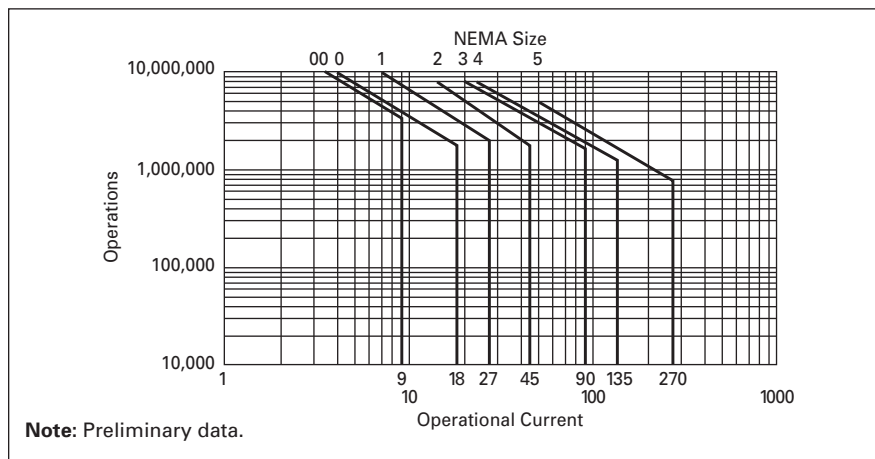
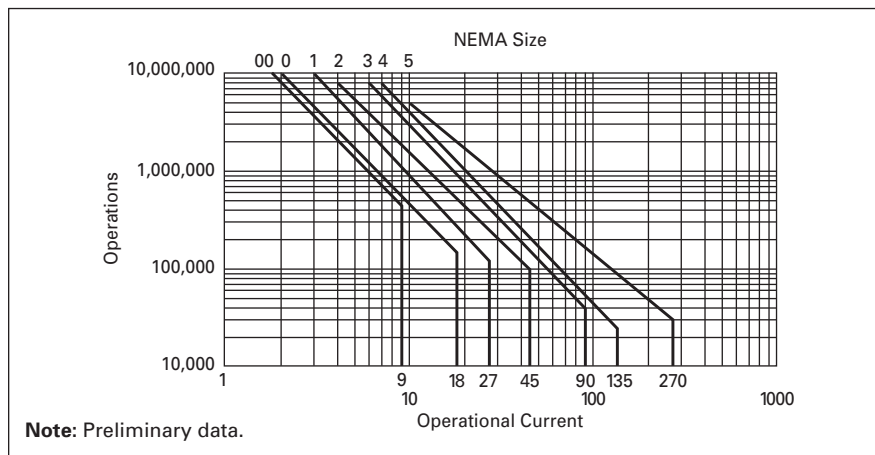

Figure 1. Electrical Life — AC-3 Utilization Category
Figure 2. Electrical Life — AC-4 Utilization Category
- Decide what utilization category the application is and choose the appropriate curve from **Figure 1** or **Figure 2**.